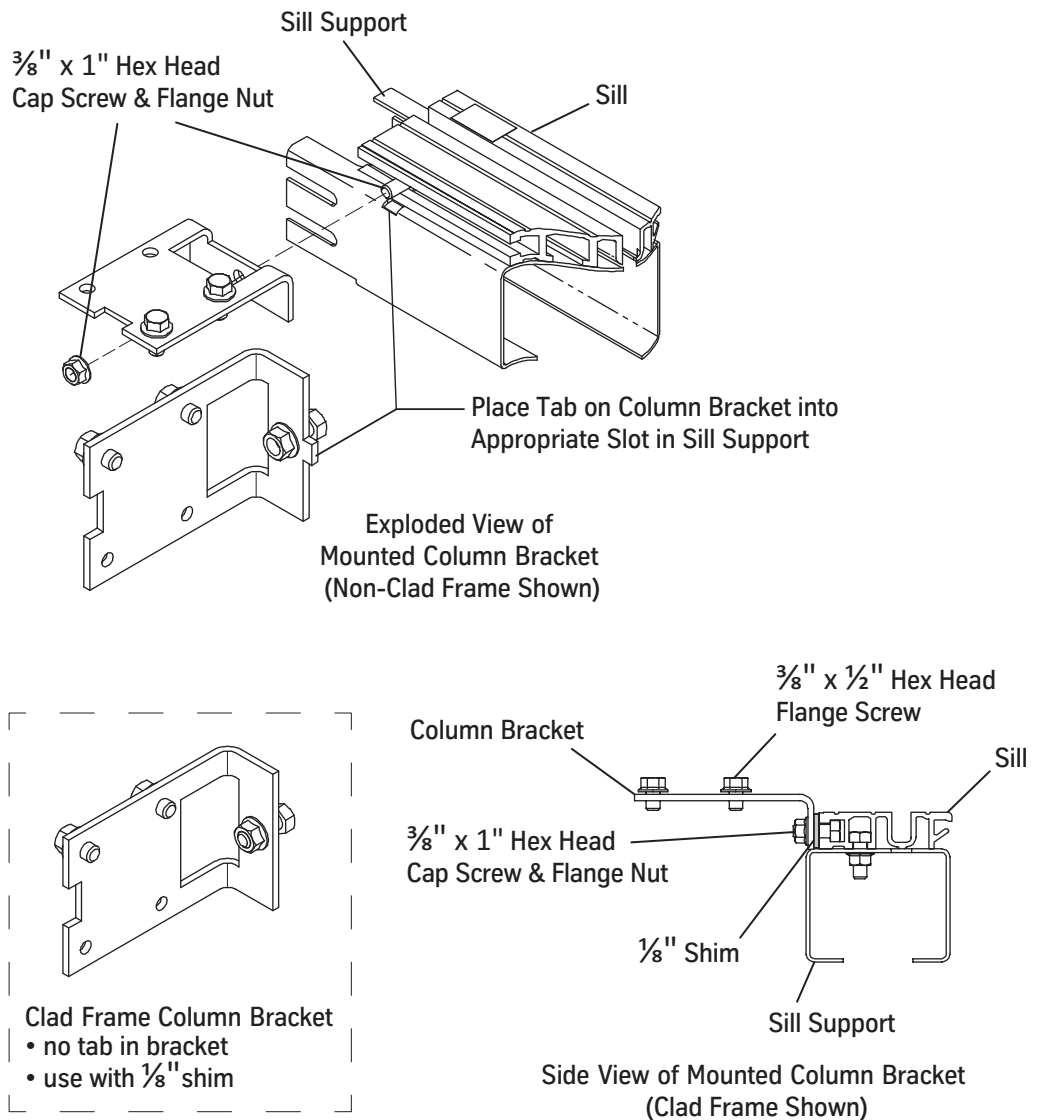

Figure 3 - Column Bracket Installation for Standard Sill
3. Remove the hex head cap screws from the column mounting brackets, and slip them into the slot on the back side of the sill. See Figure 3.